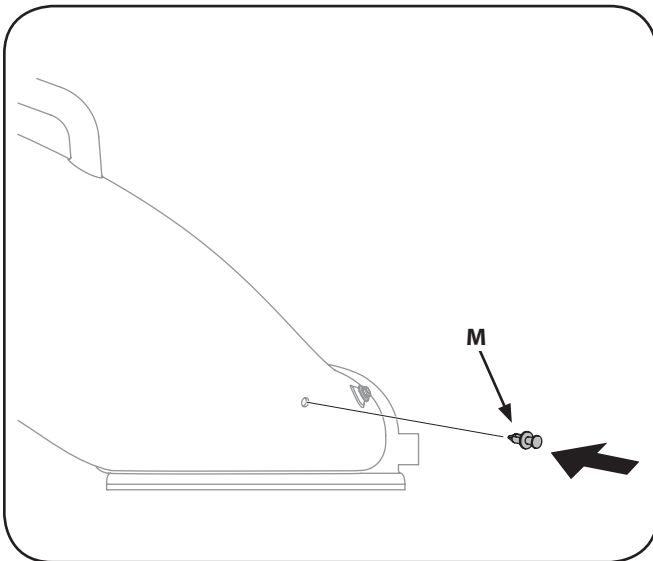

Figure 11
2. Insert the rivet [M] into the hole in the chute and push the rivet's plunger down to lock it in place. See Fig. 11.